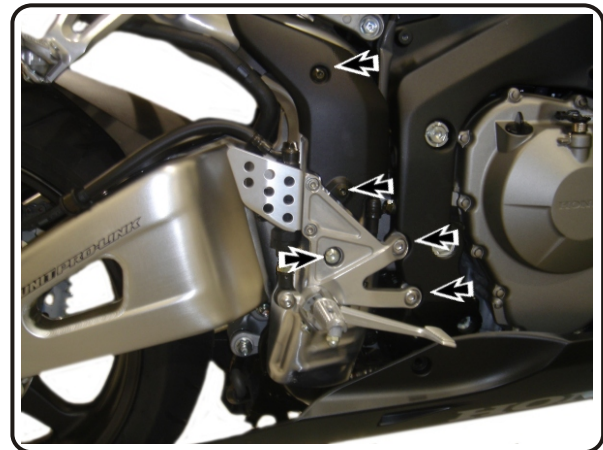

Fig. 2
- 4 Unbolt black plastic heatshield and right side footpeg assembly. (See Fig. 2) Move footpeg assembly out of the way.